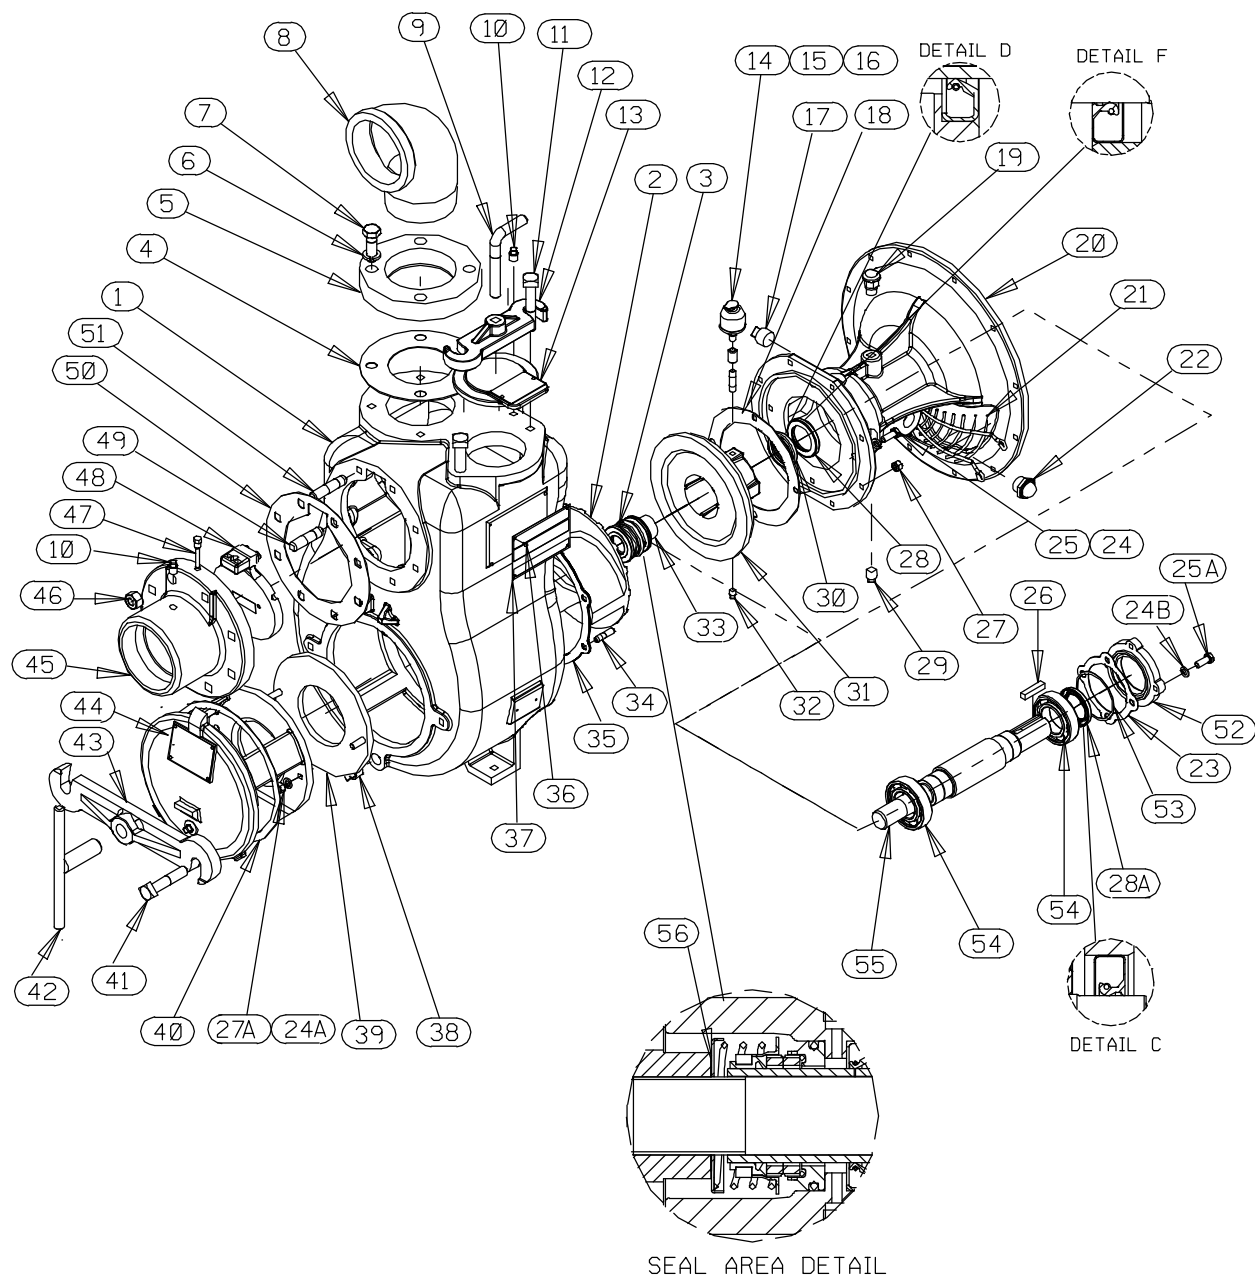

Figure 2. 14C20-(SAE 4/10) Pump End Assembly
(Figure 2)
Remove the hardware (6 and 7) securing the intermediate to the engine bellhousing. Remove the intermediate guards (21, Figure 2) and separate the assemblies by pulling the pump straight away from the engine.
As the assemblies separate, the flexible portion of the coupling assembly (3) will remain on the shaft. To remove the coupling from the shaft, unscrew the two allen head setscrews from the bushing (2). Screw one of the setscrews into the puller hole on the circumference of the bushing. As the coupling and bushing separate, remove the bushing and slide the coupling off the shaft. Remove the shaft key (26, Figure 2).